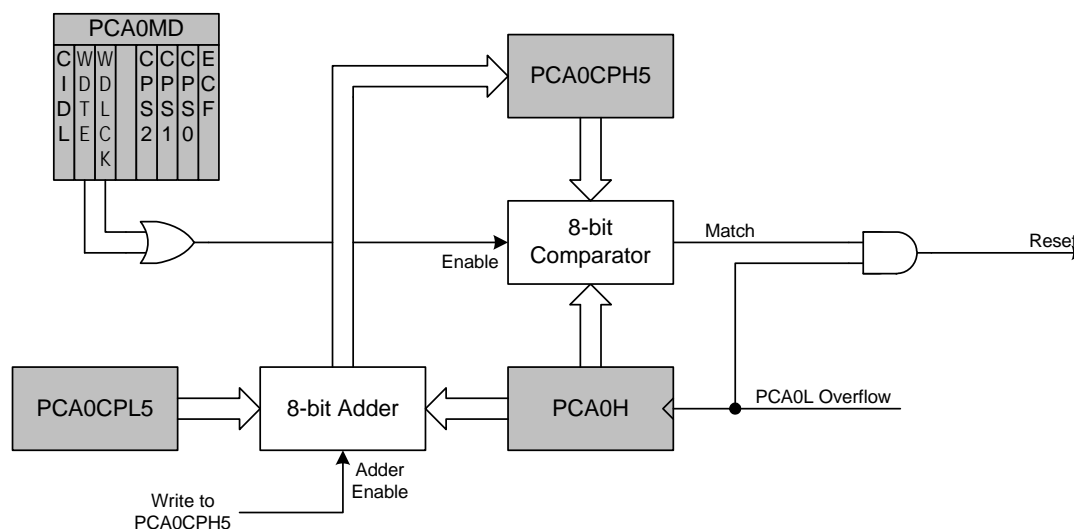

Figure 25.10. PCA Module 5 with Watchdog Timer Enabled
While the WDT is enabled, writes to the CR bit will not change the PCA counter state; the counter will run until the WDT is disabled. The PCA counter run control (CR) will read zero if the WDT is enabled but user software has not enabled the PCA counter. If a match occurs between PCA0CPH5 and PCA0H while the WDT is enabled, a reset will be generated. To prevent a WDT reset, the WDT may be updated with a write of any value to PCA0CPH5. Upon a PCA0CPH5 write, PCA0H plus the offset held in PCA0CPL5 is loaded into PCA0CPH5 (See Figure 25.10).